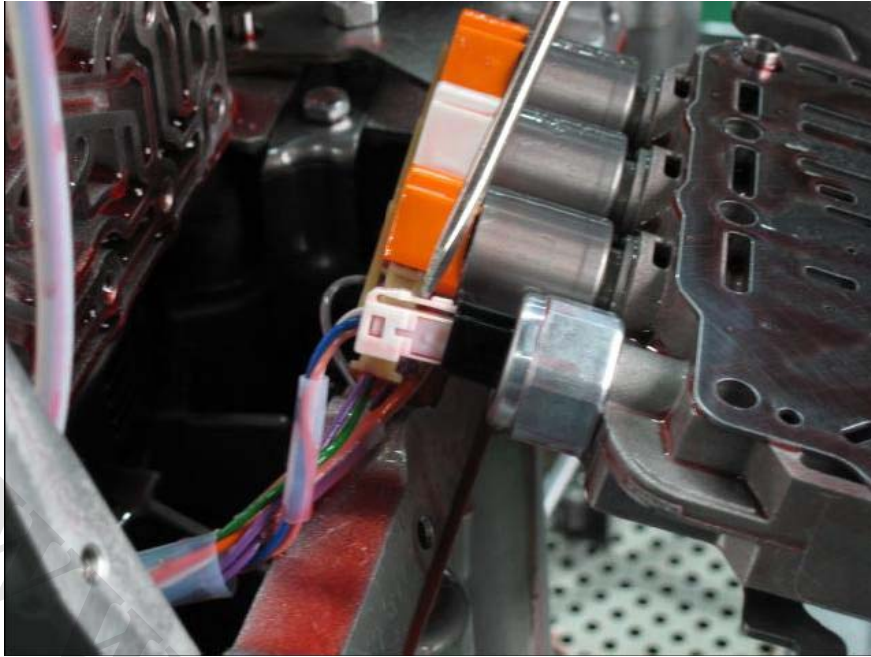

Fig. 12-2: Remove four joints by small straight screwdriver
- Take out hydraulic control block and separate four joints, remove the joint by straight screwdriver carefully and easily. (see Fig. 12-2 and 12-3)